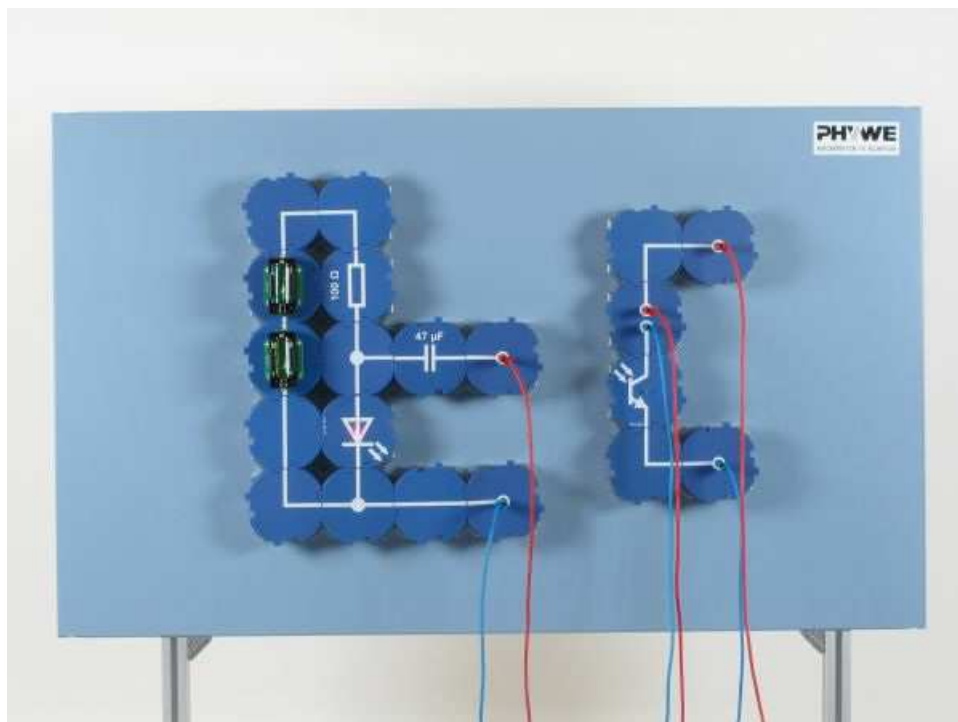

Fig. 3
- Change the experimental set-up to that shown in Fig. 3
- Fit the light conductor to the phototransistor, switch on the power supply and demonstrate signal transmission at different signal frequencies (3)